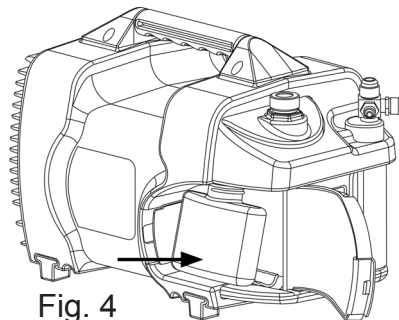

Fig. 4
7. Gently push the bottom of the cartridge forward until the TEZOM is secured in place. (Fig. 4)